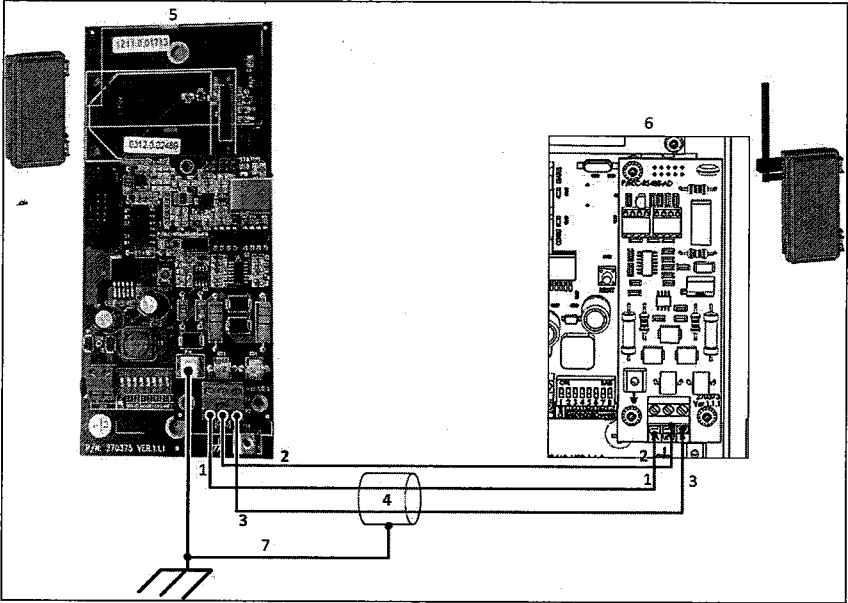

Figure 16: Wiring a USB RS-485 to an RLINK
- Figure 16: Wiring a USB RS-485 to an RLINK
Figure 16 key